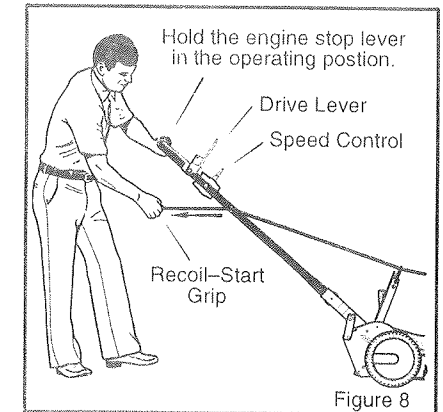

Figure 8
7. Stand behind the mower (Figure 8). Use one hand to hold the **engine stop lever** in the operating position as shown. Use the other hand to hold the **recoil-start grip**.